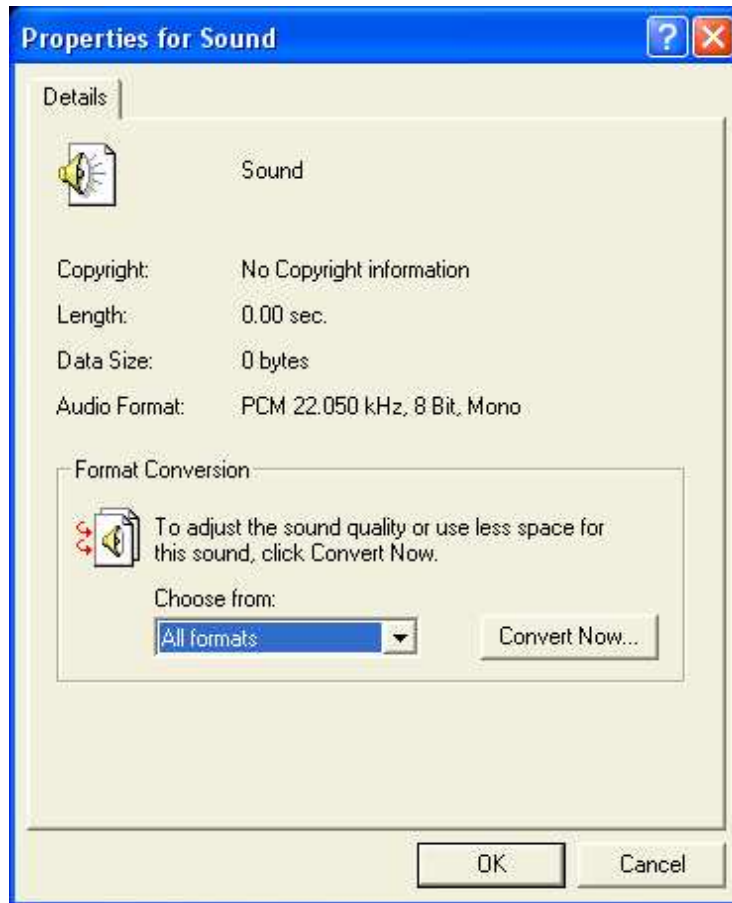

Figure 7. GUI Window: Properties for Sound
- (2) Using the File/Properties menus, open a window for *Properties for Sound*, as shown in Figure 7.